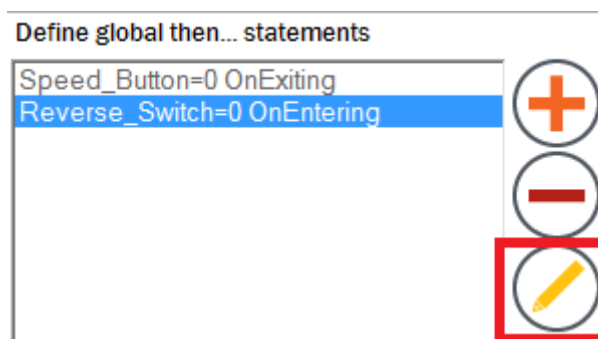

Figure 185. Edit global action
- Actions are changed by selecting the condition and clicking the "Edit" button (Figure 185).